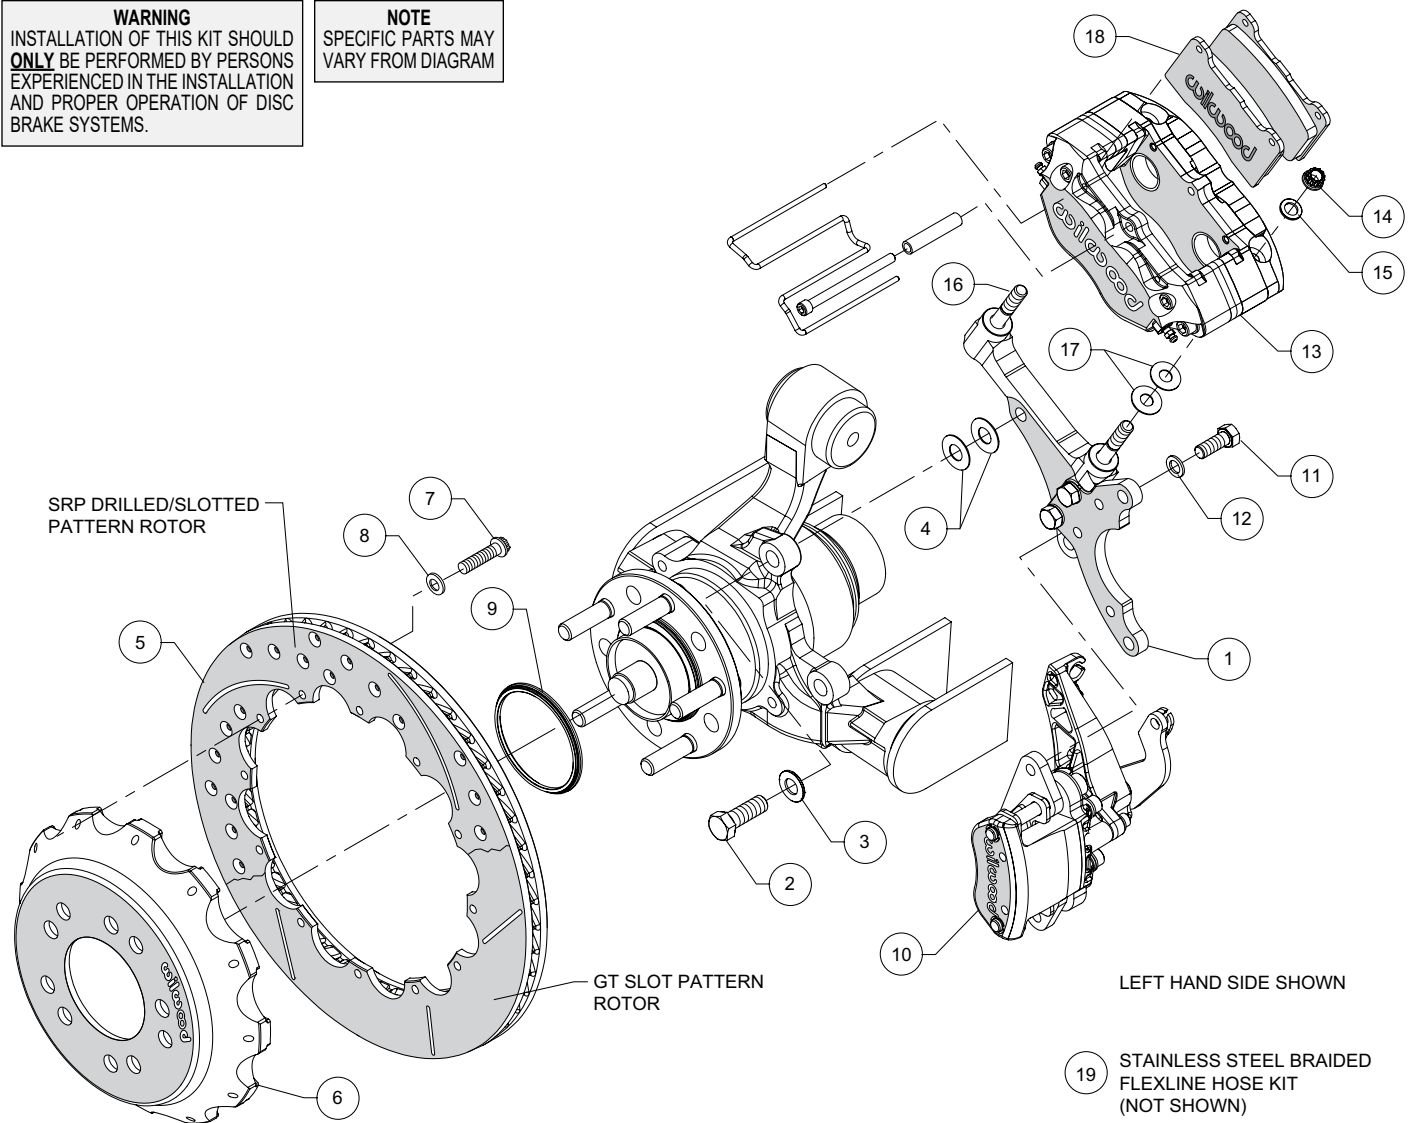
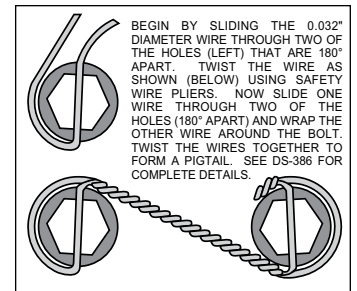

Figure 1. Typical Installation Configuration
Figure 3. Safety Wire Diagram
**NOTE:** Numbers in parenthesis refer to the parts list and Figure 1 on the preceding pages.
- The caliper mount bracket (1) should initially be installed with clean, dry threads on the mounting bolts. Orient the bracket as shown in Figure 1, and Photo 1, and install using bolts (2) and washers (3). Initially place two .033" thick shims (4) on each bolt between the bracket and upright, Figure 1. Temporarily tighten the mounting bolts. **NOTE:** *The bracket must fit squarely against the mount bosses on the upright.* Inspect for interference from casting irregularities, machining ridges, burrs, etc. Later, after the caliper alignment has been checked, the mount bolts will be secured using red *Loctite*® 271.
- Orient the rotor (5) and the hat (6) as shown in Figure 1 and Photo 2. Attach rotor to hat using bolts (7) and washers (8). Apply red *Loctite*® 271 to the bolt threads and torque to 155 in-lb using a criss-cross pattern. For an added measure of security, the bolts may be safety wired using standard 0.032 inch diameter stainless steel safety wire as shown in Figure 3. Please refer to Wilwood's data sheet DS-386 (available at [www.wilwood.com/Pdf/DataSheets/ds386.pdf](http://www.wilwood.com/Pdf/DataSheets/ds386.pdf)) for complete safety wire installation instructions.
- Slide the rotor registration adapter (9) onto the axle register on the hub assembly with the smaller O.D. facing outward, Photo 3. Slide the hat/rotor assembly (5/6) onto the axle hub. **NOTE:** *The hat must fit flush against the axle hub flange or excessive rotor run out may result.* Install three lug nuts (finger tight) to keep the hat/rotor assembly in place while continuing with the installation, Photo 4.
- Lubricate the caliper mounting studs (16) with lightweight oil. Initially place two .035" thick shims (17) on each stud as shown in Figure 1 and Photo 5. Mount the caliper (13) onto the bracket (1) using lock nuts (14) and washers (15), Figure 1. Temporarily tighten the lock nuts and view the rotor through the top opening of the caliper. The rotor should be centered in the caliper, Photo 6. If not, adjust by adding or subtracting shims (4) between the bracket and the mounting bosses. Always use the same amount of shims on each of the two mounting bolts. Once the caliper alignment is correct, remove the bracket mounting bolts one at a time, apply red *Loctite*® 271 to the threads, and torque to 60 ft-lb.
- Insert the brake pads (18) into the caliper with the friction material facing the rotor (5), as shown in Figure 1 and Photo 7. Check that the top of the brake pad is flush with the outside diameter of the rotor, Photo 8. If not, adjust by adding or subtracting shims (17) between the caliper and the bracket. After the caliper pad height is set, torque the caliper lock nuts (14) to 30 ft-lb. Secure the pads in place using the pad clip retainer as well as the center bridge pad retainer tube, bolt, and locknut, Photo 9. The locknut should be snug without play in the bolt or tube. Be cautious not to over tighten.
- Mount the parking brake caliper (10) onto the caliper mounting bracket (1) using bolts (11) and washers (12), as shown in Figure 1 and Photo 10. Apply red *Loctite*® 271 to bolt threads, and torque to 30 ft-lb.
- NOTE:** OEM rubber brake hoses generally cannot be adapted to Wilwood calipers. The caliper inlet fitting is a 1/8-27 NPT (use PTFE tape on pipe threads of adapter fitting for proper sealing to caliper). Install Wilwood's stainless steel braided flexline hose kit (19), P/N 220-15021 included with this kit. **Carefully route hoses to prevent contact with moving suspension, brake or wheel components.** **NOTE:** Be sure to attach the bracket for the fitting to the Factory Five Roadster chassis in a location which will allow full suspension travel and will not cause the line to have tension or be pinched, Photo 11. **NOTE:** Wilwood hose kits are designed for use in many different vehicle applications and it is the installer's responsibility to properly route and ensure adequate clearance and retention for brake hose components.